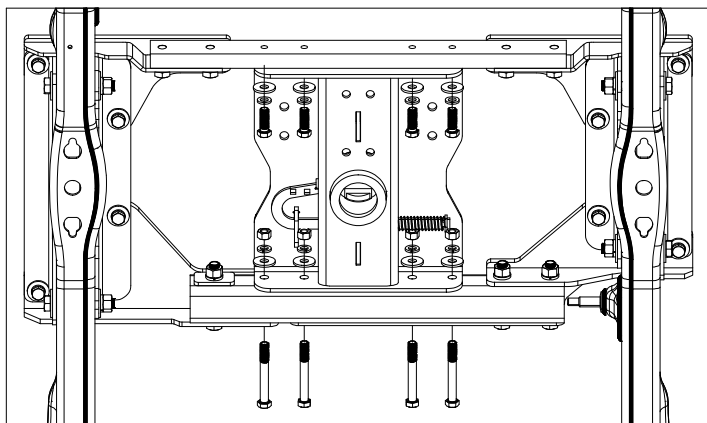

Figure C2: Bottom of truck frame looking up from the back of truck towards the cab
2. **Install Hardware.** Attach the center to the front cross member by passing 1/2" x 4" bolts through the washer plate, and cross member and into the center section. Secure the bolts with flat washers, lock washers, and nuts. Next, attach the center to rear cross member with 1/2" x 1-1/2" bolts, flat washers, and lock washers, see Figure C2. Do not fully tighten hardware connections at this time.